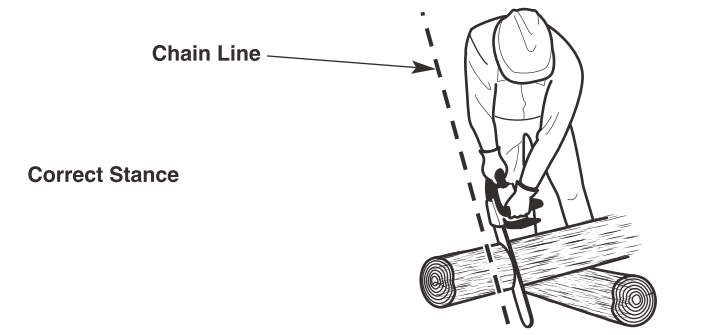
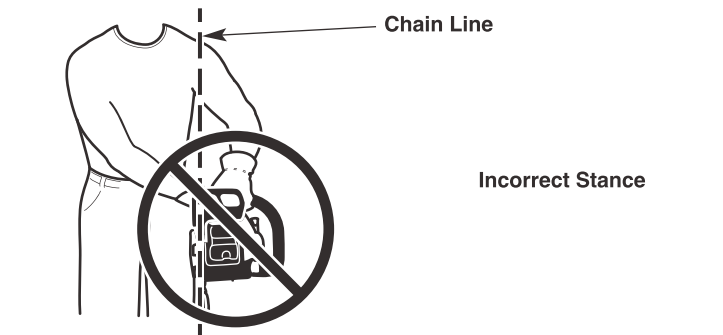

Fig. 8
Fig. 9
<p>WARNING: Always use the hand placements specified below whether the operator is left-handed or right-handed. This will help keep the operator slightly to the left of the unit and out of the direct line of the saw chain if kickback occurs (Fig. 8 and Fig. 9). Always keep all body parts to the left of the chain line.</p>
- Use these hand placements whether the operator is left-handed or right-handed. This will help keep the operator slightly to the left of the unit and out of the direct line of the chain saw if kickback occurs (Fig. 8 and Fig. 9).